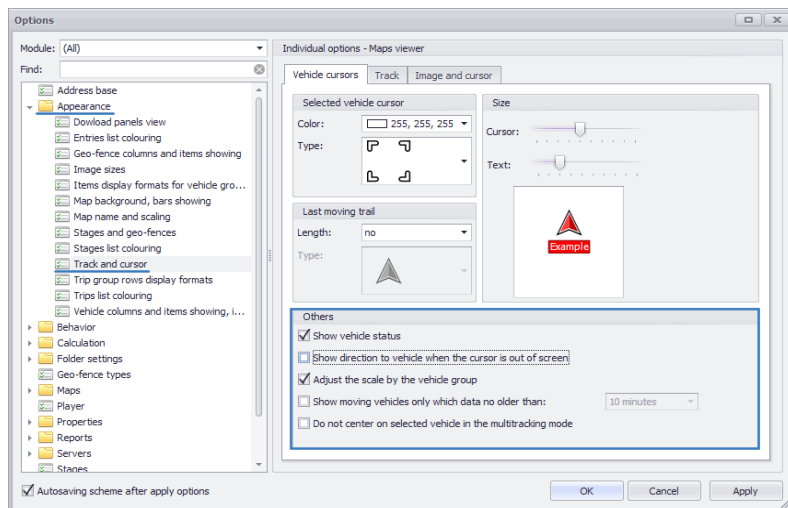

**Fig. 83. Vehicle display mode does not include this vehicle.**
**All check vehicles** – the latest known location of vehicles selected in the Device selector is displayed on the map in this mode. To select a vehicle in Device selector, check boxes shall be displayed. In this mode, if the Device selector cursor is placed over a vehicle which is not checked, then the message “Vehicle display mode does not include the vehicle” will appear (**Fig. 83**).